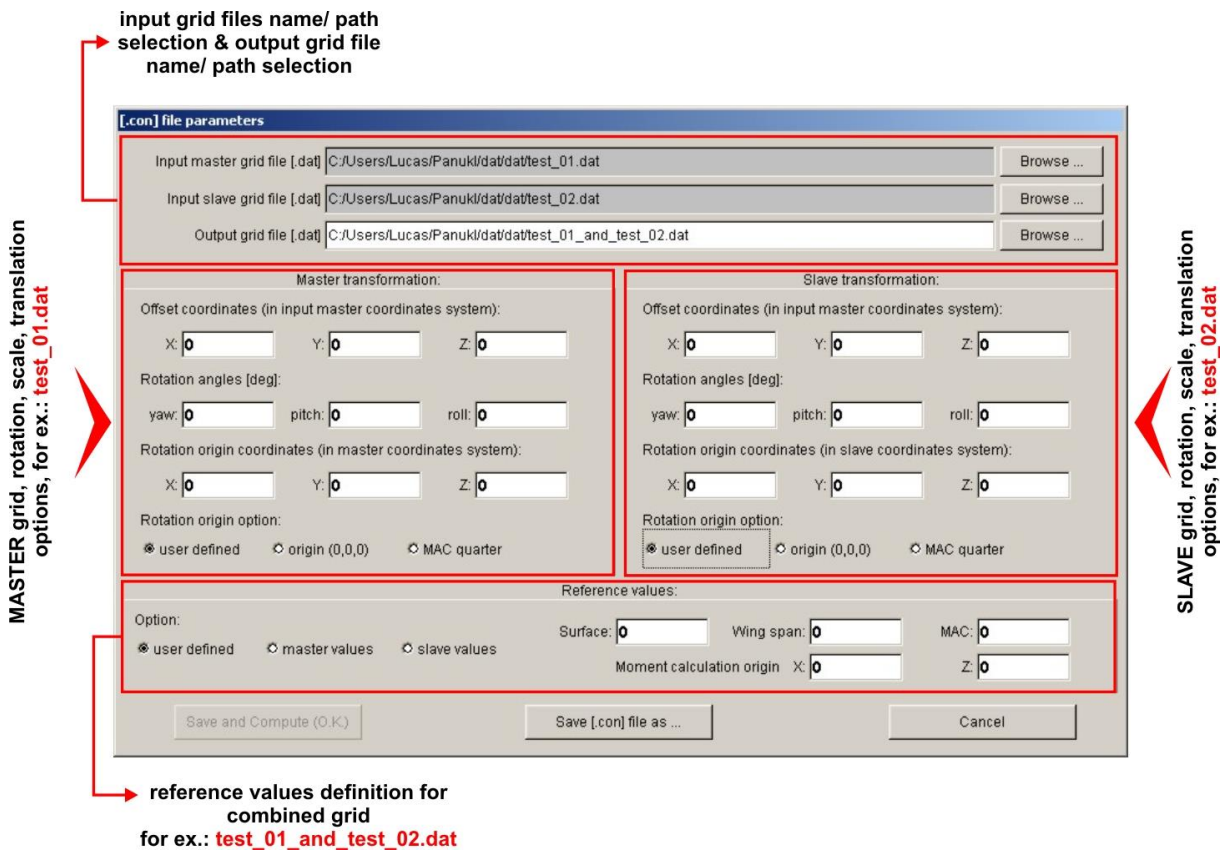

Fig. 28 – CONNECT TWO GRIDS main options
Run **CONNECT TWO GRIDS** and click **CANCEL** button when prompted for saved configuration file [.con]. The configuration window will appear (Fig. 28) where user can select options to create [.dat] file. To save current [.dat] creation options to [.con] file click **Save [.con] file as**, to create [.dat] file click **Save and Compute (OK)** button.